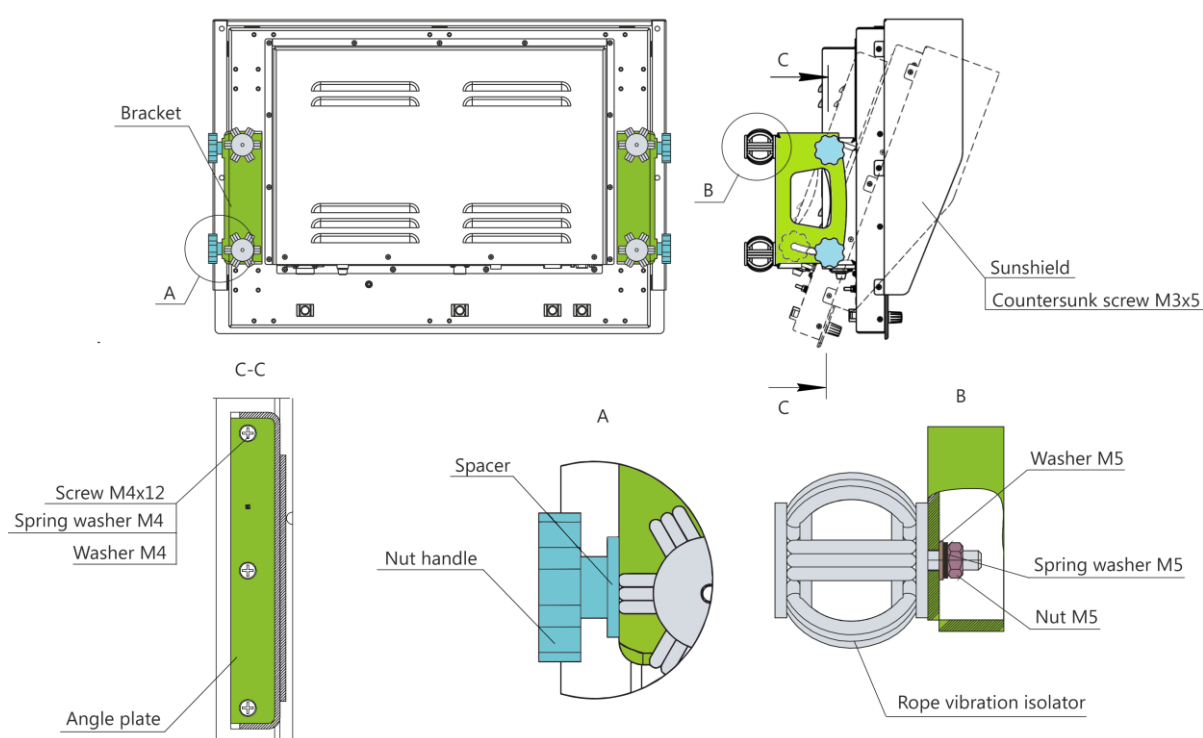

Figure 6 – Wall mounting with an adjustable bracket
4) Wall mounting with an adjustable bracket (see Figure 6) ensures mounting on a surface using adjustable brackets, nut handles and a mounting kit of metal ware.